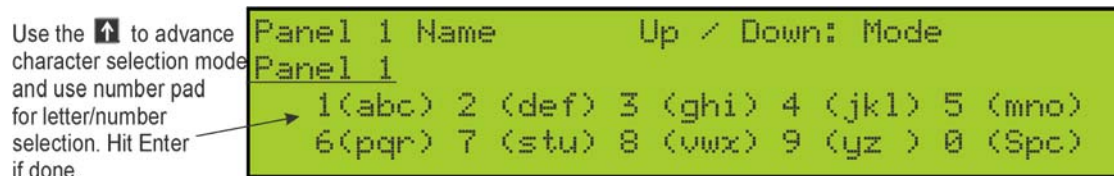

Figure 6-1 Edit Panel Name
4. Press 1 to Edit Panel Name. Choose Panel to edit. See Figure 6-1.